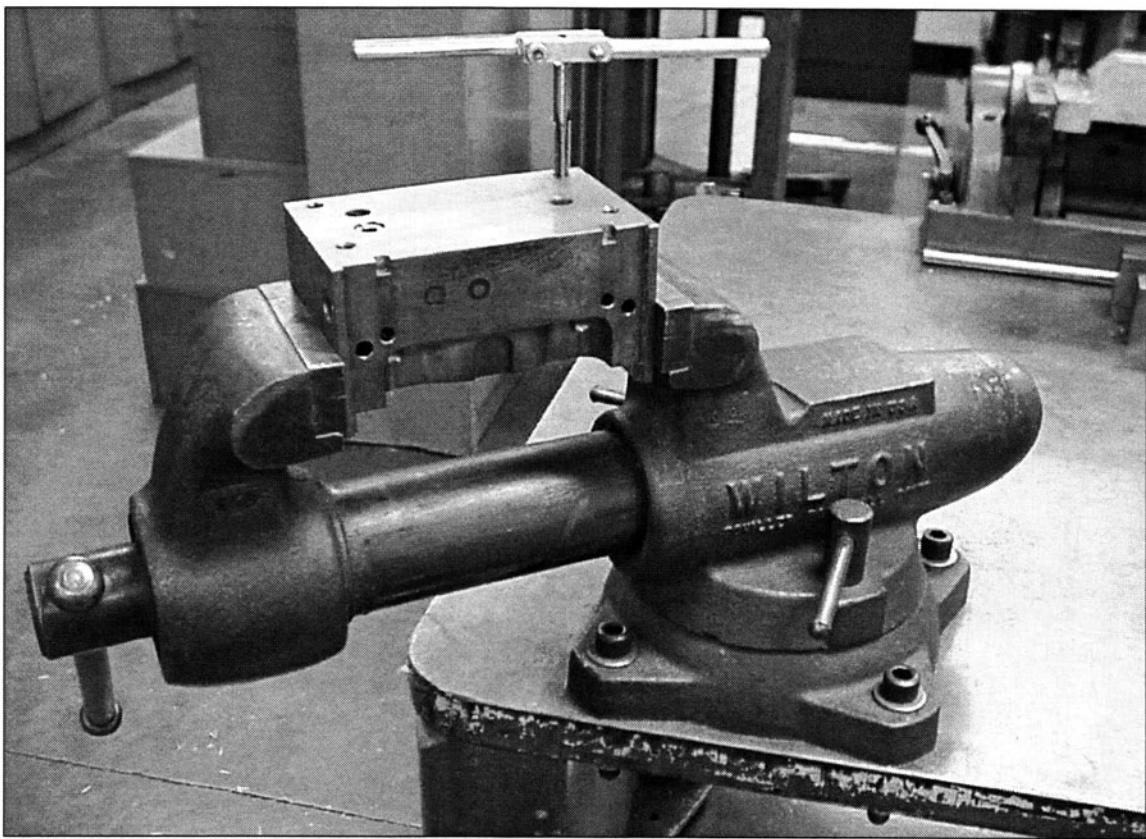

FIGURE 6-14 A high quality bench vise is used to hold a part for hand tapping.
21. *Use good quality bench vises with smooth jaws. (See Fig. 6-14)*